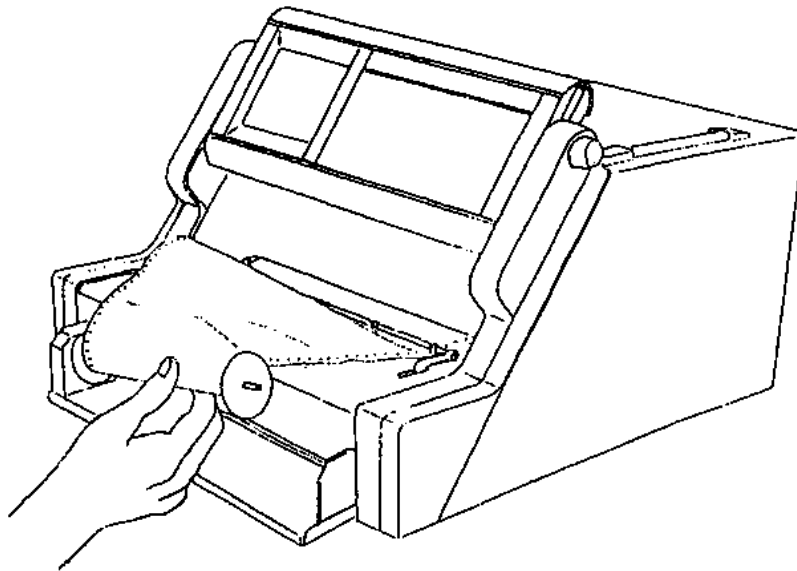

Fig. 3.5-1
- (1) Open the front door forward as shown by the diagram. (Refer to Fig. 3.5-1)
- (2) Load the chart paper, referring to 3.1 "Loading the rolled chart paper".
- (3) Insert the chart paper holder into both ends of the take-up accessory bobbin.
- (4) Set the movable shaft chart paper holder at the left and feed the chart paper from the drum. Wind up the top end of the chart paper about two rotations on the take-up bobbin with the print surface facing upward.
- (5) Insert the movable shaft chart paper holder into the left bearing. With pushing the take-up bobbin to the left, insert the fixed shaft recording paper holder into the right bearing.
- (6) Rotate the chart paper take-up bobbin to confirm that the concave portion of the top end of the fixed shaft chart paper holder firmly fits into the convex portion of the bearing and turn on the take-up switch.
- (7) Press the FEED key to confirm the chart paper is correctly taken up.